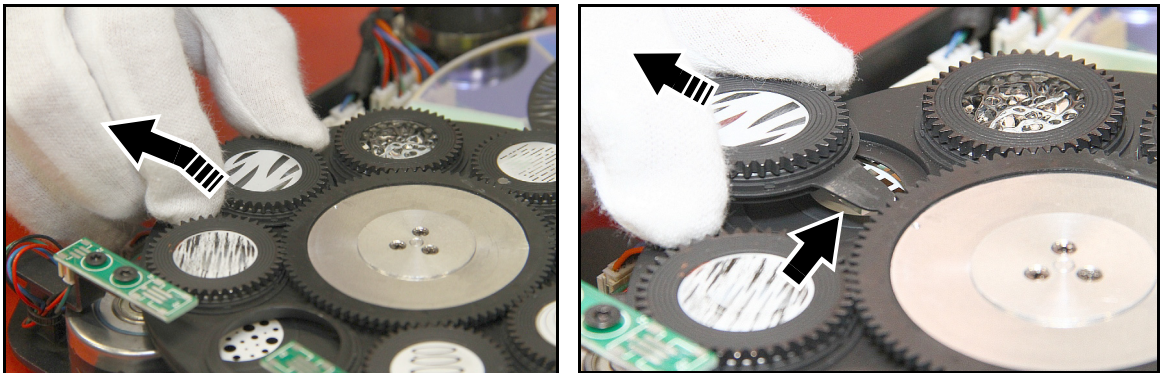

Figure 16: Removing a rotating gobo
- See Figure 16. With the reference marks lined up, lift the outside edge of the goboholder up slightly and pull the goboholder out of the gobo wheel. Note how the goboholder tongue (arrowed) engages in a recess in the gobo drive wheel. You will need to reinstall the goboholder with the tongue in the same position in the drive wheel.